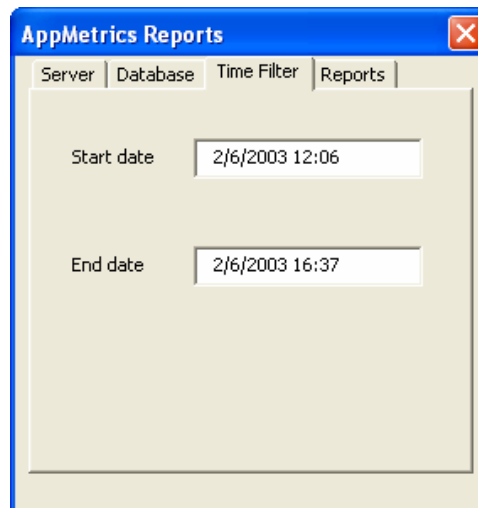

Figure 5
6. Click on the **Time Filter** tab to select the time period of the data to be viewed. This tab provides dates and times that are available (i.e. data was generated and uploaded to the database) for the monitor chosen in the Dataset tab (see Figure 5).